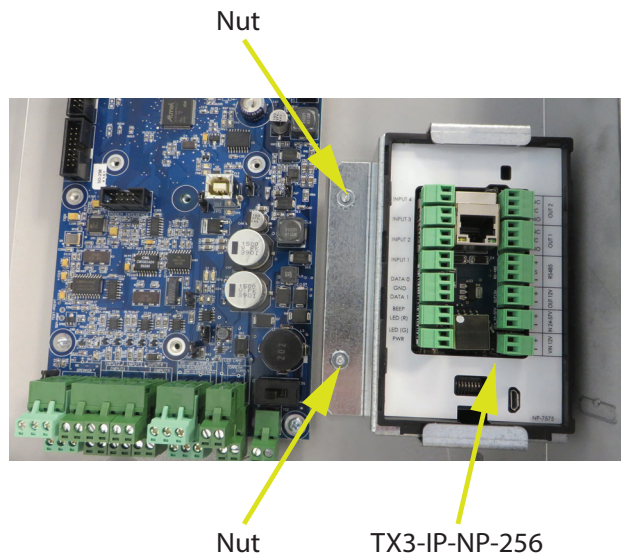

Figure 1 Mount TX3-IP-NP-256
1. Mount TX3-IP-NP-256 on the two posts as shown in Figure 1.
- Use DIP switches 1-6 (shown in Figure 1) to set the RS-485 network address.